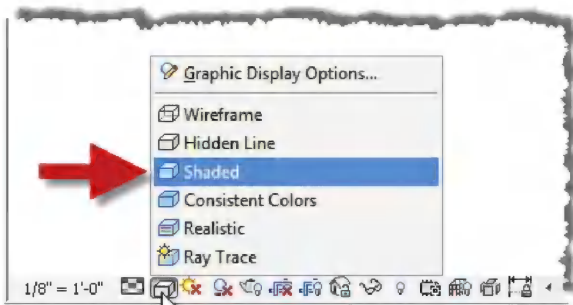

FIGURE 6-1.17 Setting visual style
50. Set the *Visual Style* to **Shaded** via the *View Control Bar* (Figure 6-1.17).